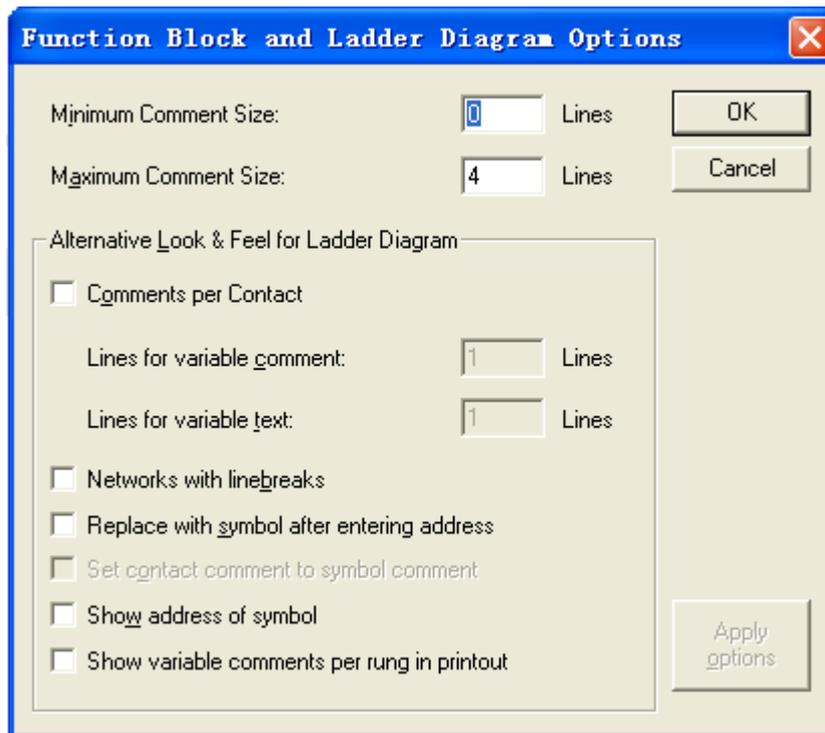

Figure 2-3-14 “Extras” Menu (2)
- **Options:** In a LD, use the “Options” menu to open a dialog “Function block and Ladder Diagram Options”, as shown in figure 2-3-14. In the dialog different options for LD POU may be set. *Refer to section 7.4.9 for detailed options.*